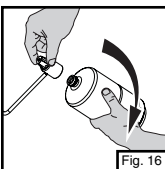

Fig. 16
- Remove propane cylinder from regulator and replace protective cap on cylinder (Fig. 16).